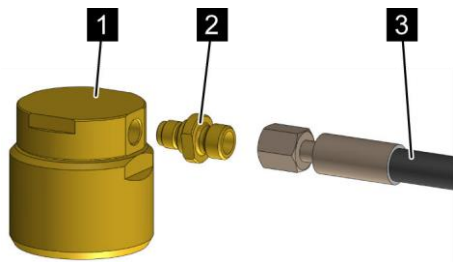

Fig. 25: Pilot line
- Connecting two pneumatic release devices (Fig. 25/1) of different slave extinguishing agent containers
- Connecting a pneumatic release device (Fig. 25/1) with a pneumatic pilot line for multi zone systems
For connecting the pilot line (Fig. 25/3) an adapter (Fig. 25/2) is required.